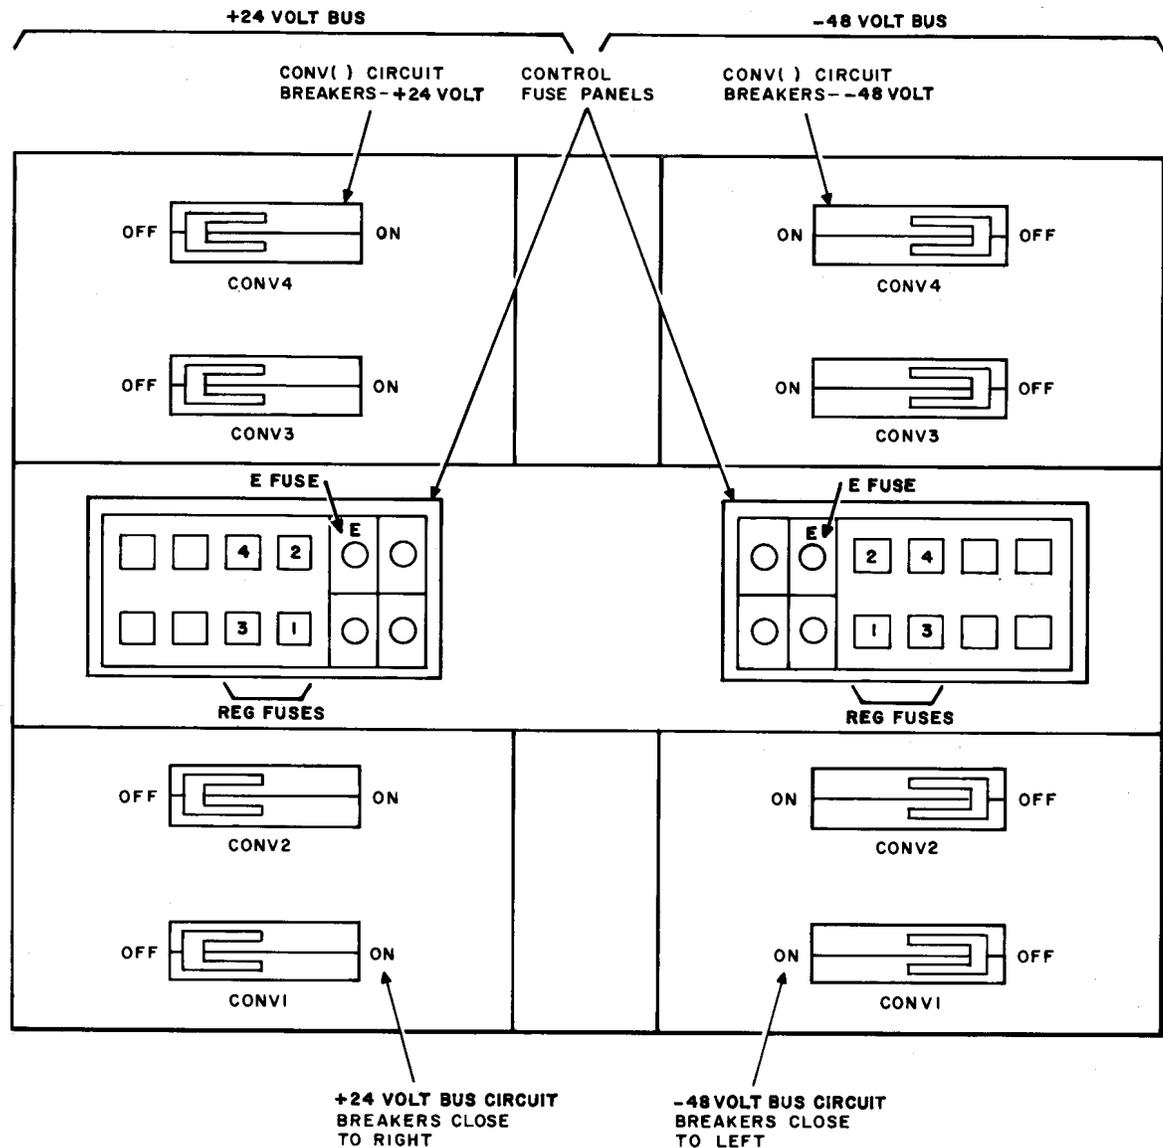

Fig. 4—Plant Distribution Panel—CONV Circuit Breakers
- (1) Verify that the procedures in 3.01 have been followed.
- (2) Charge the converter input filter capacitors in accordance with 3.02(a) or (b).
- (3) Operate the OUTPUT VOLTS (S1) switch on the plant to the associated converter position for the first converter to be started.
- (4) Operate the CONV START (S1) switch on the converter to be started to the START position.
- (5) Adjust the VOLT ADJ (R16) potentiometer on the converter until the plant OUTPUT VOLTS (M1) meter indicates 0.5 volt above the required bus voltage as specified by local instructions. In the absence of local instructions, the plant OUTPUT VOLTS (M1) meter should indicate 24.5 volts.
- (6) Operate the bus CONV( ) circuit breaker for the converter that was started to the ON position (refer to Fig. 4).
- (7) Momentarily depress the ACO pushbutton to reset the low voltage monitor and retire the alarm.
- (8) Slowly install some of the associated load distribution fuses in the plant distribution fuse panel until the converter is supplying a maximum of 90 amperes to the load, as indicated on the converter OUTPUT CURRENT (M1) ammeter.
- (9) Operate the OUTPUT VOLTS (S1) switch on the plant control panel to the PLANT position. Observe the OUTPUT VOLTS (M1) voltmeter.
- (10) Operate the OUTPUT VOLTS (S1) switch on the plant control panel to the associated position for the next 24-volt converter to be started.
- (11) Operate the CONV START (S1) switch on the converter to be started to the START position.
- (12) Adjust the VOLT ADJ (R16) potentiometer on the converter until the plant OUTPUT VOLTS (M1) meter indicates 0.5 volt above the required bus voltage as specified by local instructions. In the absence of local instructions, the plant OUTPUT VOLTS (M1) meter should indicate 24.5 volts.
- (13) Operate the bus CONV( ) circuit breaker for the converter that was started to the ON position (see Fig. 4).
- (14) Slowly install additional load distribution fuses associated with the bus to increase the bus load by a maximum of 90 amperes. The total bus load is equal to the sum of the current readings on the individual converters.
- (15) Operate the OUTPUT VOLTS (S1) switch on the plant control panel to the PLANT position. Observe the OUTPUT VOLTS (M1) voltmeter.
(3) Operate the OUTPUT VOLTS (S1) switch on the plant to the associated converter position for the first converter to be started.
(4) Operate the CONV START (S1) switch on the converter to be started to the START position.
(5) Adjust the VOLT ADJ (R16) potentiometer on the converter until the plant OUTPUT VOLTS (M1) meter indicates 1.25 volts above the required bus voltage as specified by local instructions. In the absence of local instructions, the plant OUTPUT VOLTS (M1) meter should indicate 49.25 volts.
(6) Operate the bus CONV( ) circuit breaker for the converter that was started to the ON position (refer to Fig. 4).
(7) Momentarily depress the ACO pushbutton to reset the low voltage monitor and retire the alarm.
(8) Slowly install some of the associated load distribution fuses in the plant distribution fuse panel until the converter is supplying a maximum of 45 amperes to the load, as indicated on the converter OUTPUT CURRENT (M1) ammeter.
(9) Operate the OUTPUT VOLTS (S1) switch on the plant control panel to the PLANT position. Observe the OUTPUT VOLTS (M1) voltmeter.
(10) Operate the OUTPUT VOLTS (S1) switch on the plant control panel to the associated position for the next 48-volt converter to be started.
(11) Operate the CONV START (S1) switch on the converter to be started to the START position.
(12) Adjust the VOLT ADJ (R16) potentiometer on the converter until the plant OUTPUT VOLTS (M1) meter indicates 1.25 volts above the required bus voltage as specified by local instructions. In the absence of local instructions, the plant OUTPUT VOLTS (M1) meter should indicate 49.25 volts.
(13) Operate the bus CONV( ) circuit breaker for the converter that was started to the ON position (see Fig. 4).
(14) Slowly install additional load distribution fuses associated with the bus to increase